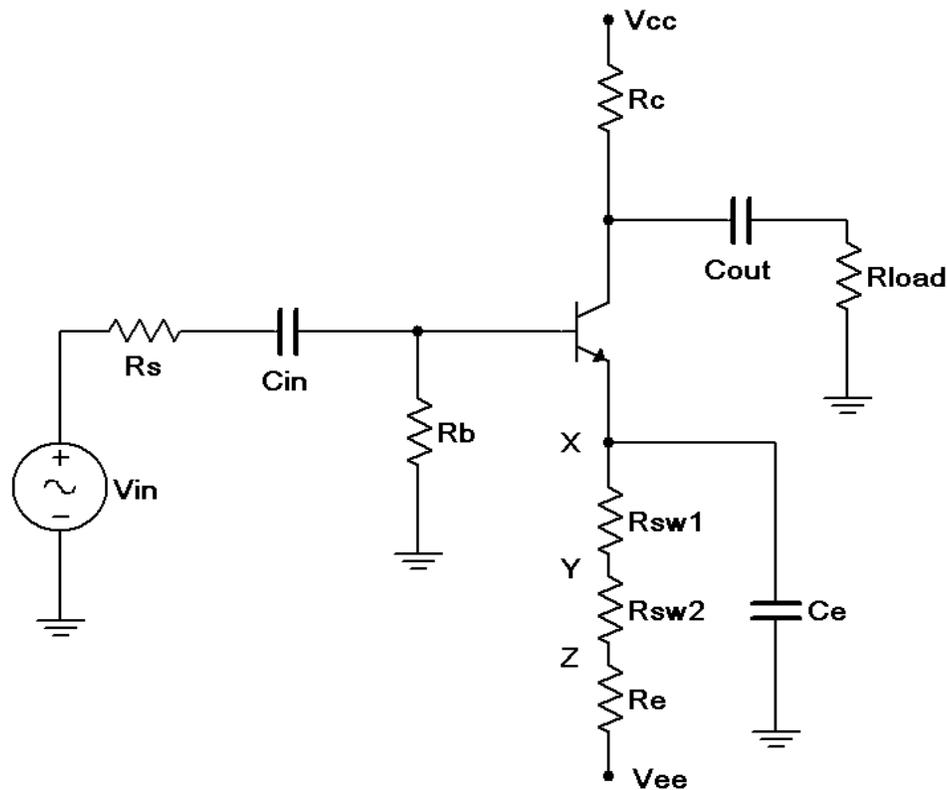

Figure 1
1. Consider the circuit of Figure 1 using  $V_{cc} = 15$  volts,  $V_{ee} = -12$  volts,  $R_s = 10$  k $\Omega$ ,  $R_b = 33$  k $\Omega$ ,  $R_e = 22$  k $\Omega$ ,  $R_{sw1} = 220$   $\Omega$ ,  $R_{sw2} = 1$  k $\Omega$ ,  $R_c = 15$  k $\Omega$ ,  $R_{load} = 20$  k $\Omega$ ,  $C_{in} = C_{out} = 10$   $\mu$ F and  $C_e = 470$   $\mu$ F. Using the approximation of a negligible DC base voltage, determine the DC collector current and  $r'_e$ , and record these in Table 1. Using the  $r'_e$ , calculate the expected  $Z_{in}$ ,  $Z_{in(base)}$ , and  $A_v$  for the X, Y and Z connection points for  $C_e$  (shown at position X in the schematic). Record these in Table 2. If a transistor curve tracer or beta checker is not available to get an approximate value of beta for the transistor, estimate it at 150.
2. Build the circuit of Figure 1 using  $V_{cc} = 15$  volts,  $V_{ee} = -12$  volts,  $R_s = 10$  k $\Omega$ ,  $R_b = 33$  k $\Omega$ ,  $R_e = 22$  k $\Omega$ ,  $R_{sw1} = 220$   $\Omega$ ,  $R_{sw2} = 1$  k $\Omega$ ,  $R_c = 15$  k $\Omega$ ,  $R_{load} = 20$  k $\Omega$ ,  $C_{in} = C_{out} = 10$   $\mu$ F and  $C_e = 470$   $\mu$ F. Connect  $C_e$  to position X. Disconnect the signal source and check the DC transistor voltages to ensure that the circuit is biased correctly (note, the DC equivalent circuit is very similar to the ones used in the Emitter Bias Exercise and should exhibit similar DC voltage readings).